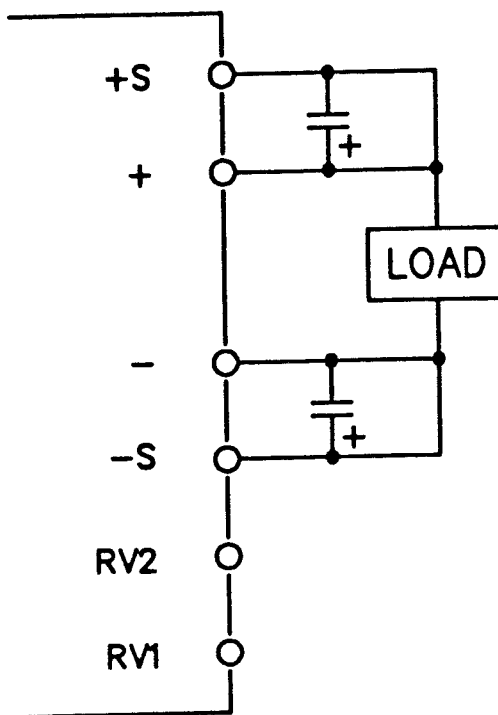

FIGURE 5 THE FPD 50-24 DC TO DC CONVERTER WITH REMOTE SENSING AND FIXED OUTPUT VOLTAGE
**NOTE:** If long sense wires are used it is recommended to place a 100 $\mu$ F (or more) electrolytic capacitor between the (+) and (+S) terminals and between the (-) and (-S) terminals to reduce possible oscillations of the output voltage (see Figure 5).
**NOTE:** For a fixed output voltage (see Figure 5) do not connect any resistors to the (RV1) and (RV2) terminals.